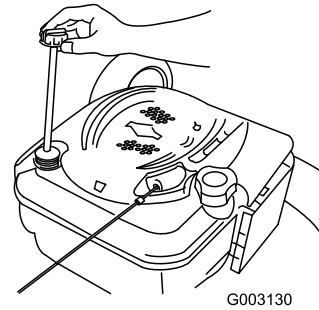

Figure 36
2. Retire la varilla (Figure 36).